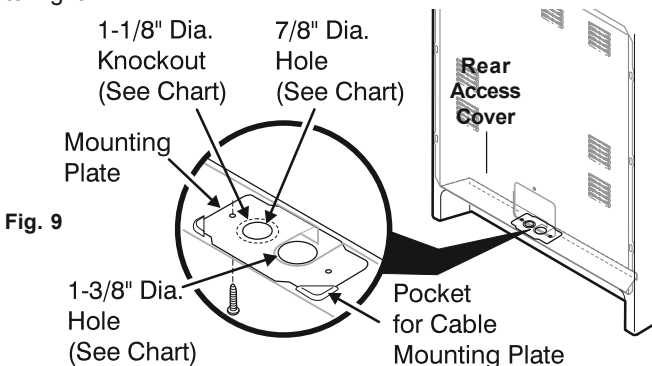

Fig. 9
See Range Connection Opening Size Chart (Figs. 9 & 10) for cord kit ampere rating information. Terminals on end of wires must be either closed loop or open-end spade lugs with upturned ends.
The Rear Access Cover must be removed (Fig 9). To remove, loosen center screw (one screw) and remove cover. The terminal block will then be accessible.
**NOTE:** Range is shipped from factory with 1-3/8" dia. hole as shown. To use either 7/8" dia. hole or 1-1/8" dia. knockouts refer to Fig. 9.
1. Follow the manufacturer's installation instructions supplied with the strain relief and install (Also see Figs. 9, 10 & 11).
5. Make sure all screws are tightened securely and replace the rear access cover (See Fig. 9).
3. Make sure all connections are tightened securely and replace the rear access cover (See Fig. 9).
5. **(3 & 4 - Wire Permanent Connections)** Make sure all connections are tightened securely and replace the rear access cover (See Fig. 9).